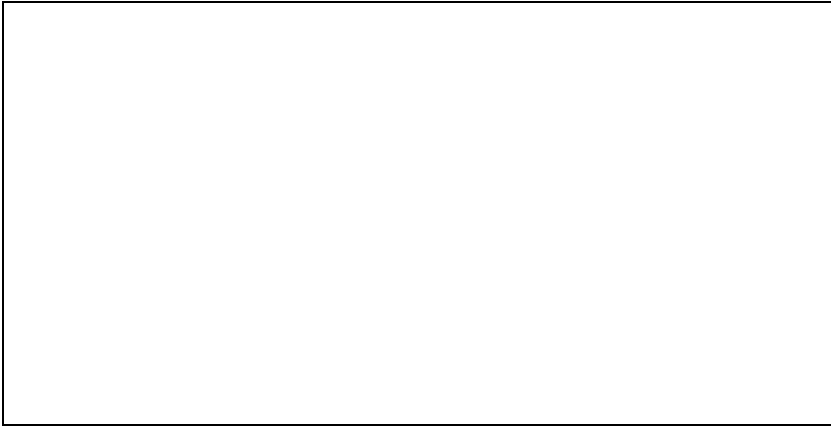

Figure 18.3 Port 2 connector diagram
**Figure 18.3** gives pinout requirements for the connector labeled Port 2.